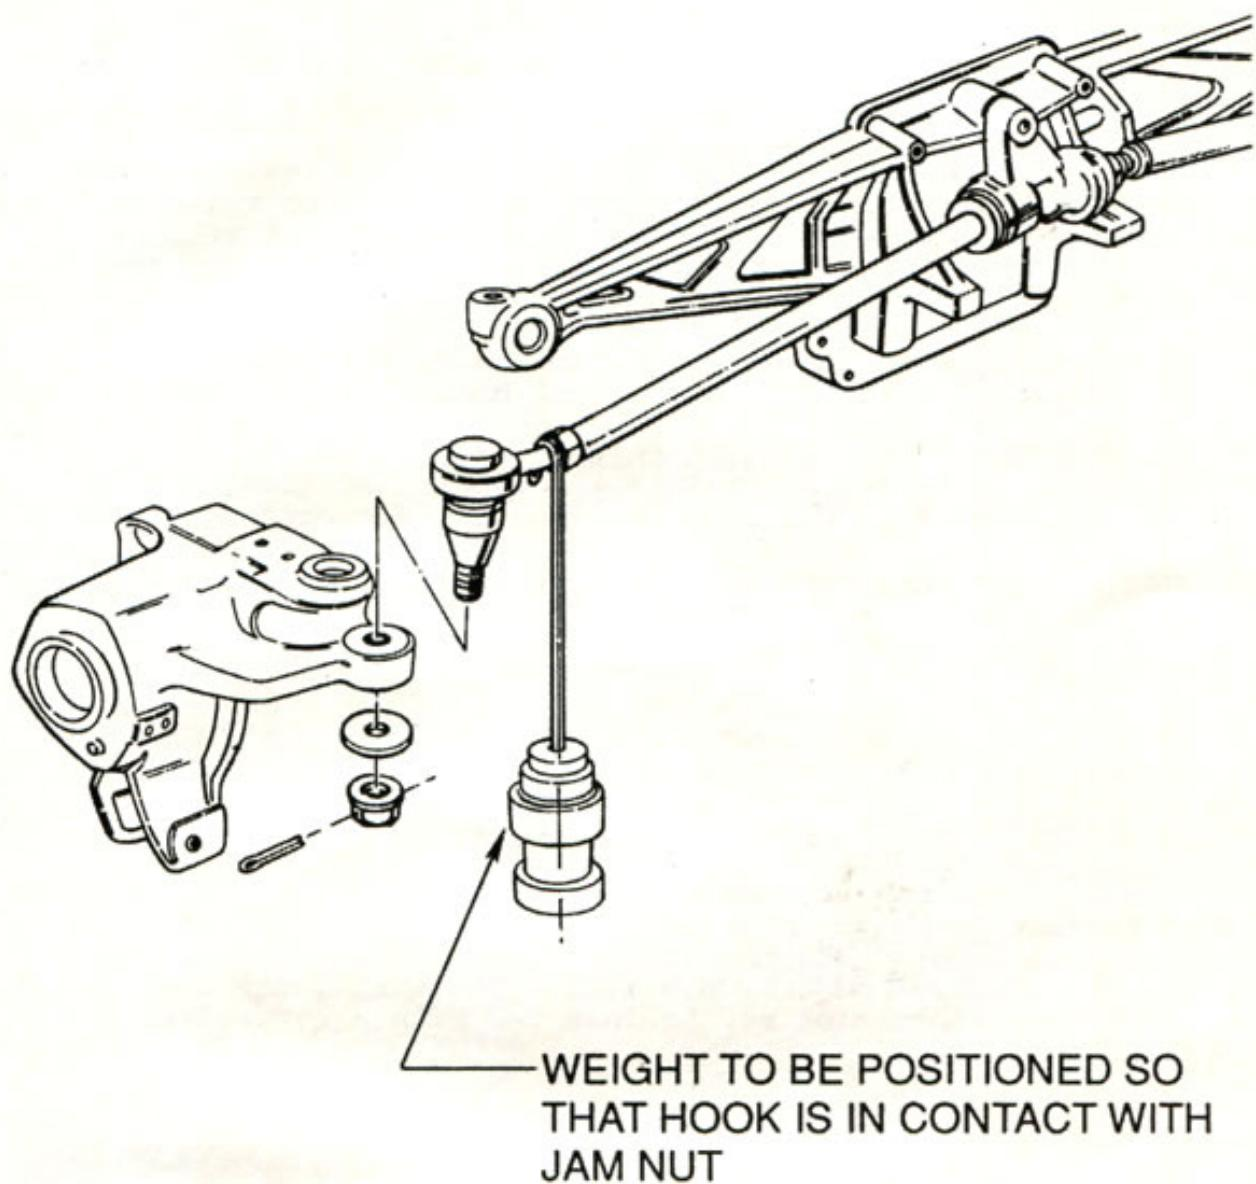

FIGURE 2
4. Raise and hold outer end of left hand tie rod linkage in its upper most position, insuring rod is not rotated while being raised. Attach weight as shown in Figure 2, release linkage and note results. Repeat procedure on right hand tie rod linkage.